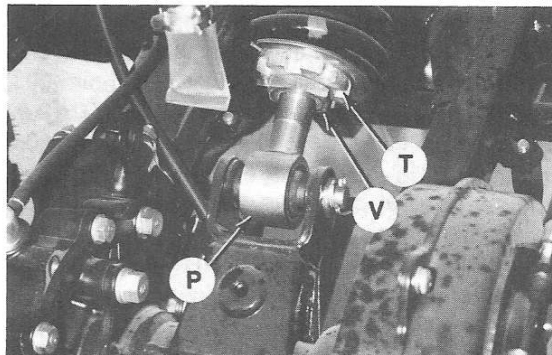

Fig. Y6-23—Shock absorber spring preload is adjusted by turning nut (T). Refer to text for adjustment.
Spring preload may be adjusted by removing cotter pin, loosening locknut (V—Fig. Y6-23) and rotating preload nut (T). Tightening the preload nut increases spring tension. Note punch mark (P) on shock eye. Do not set preload so distance from punch mark to back of preload nut is less than 57.8 mm (2.28 in.).